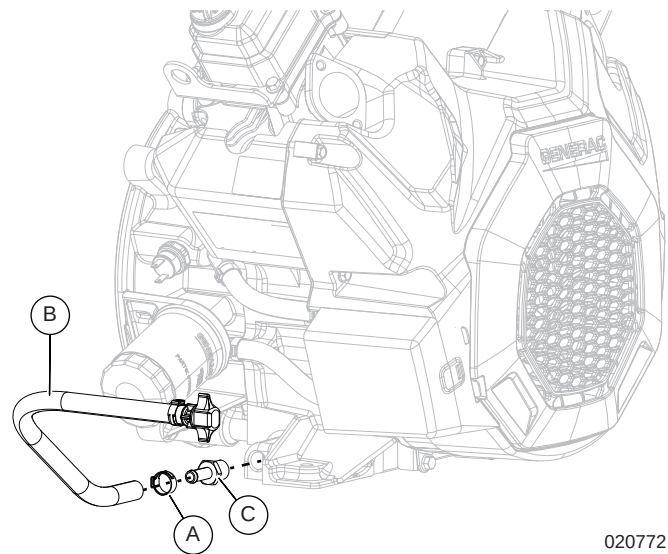

Figure 6-15. Remove Oil Drain Hose
1. See Figure 6-15. Cut off the crimped ear of the stepless ear clamp (A) to remove it from oil drain hose assembly.